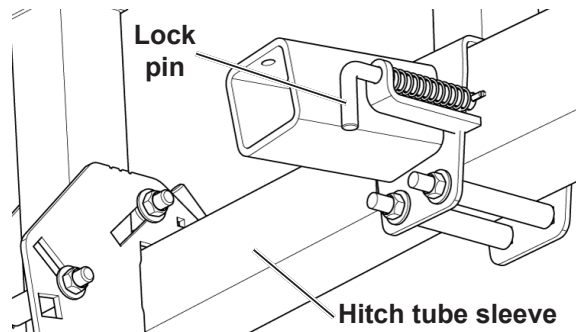

Fig. 72
7. Pull the lock pin on hitch tube sleeve, and then pull the hitch tube out of the hitch tube sleeve. Reinsert the lock pin to secure the tube. (“Fig. 72”)